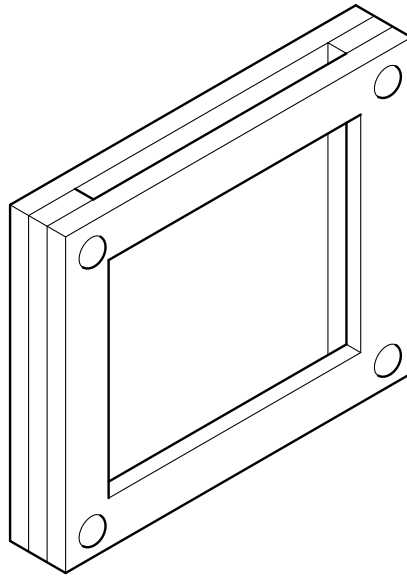

Fig. 2
- 3 The picture frame shown in Fig. 2 has been made by riveting together pieces of aluminium.